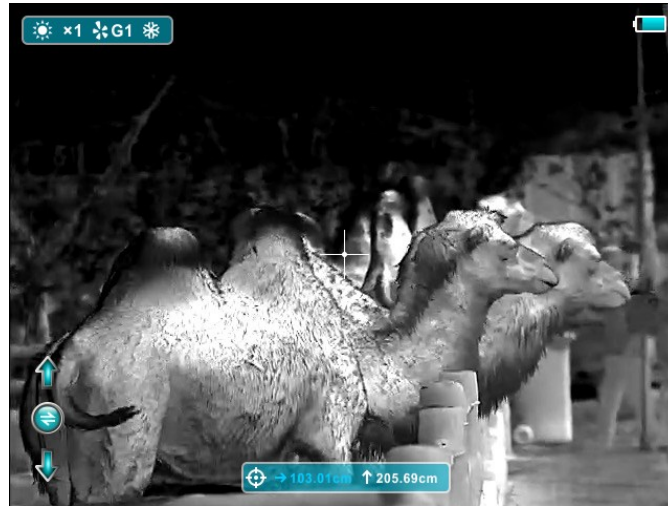

Fig. 4 Zeroing interface
- Select the Zeroing item, and press the **M** button to pop up the Zeroing interface as shown in figure 4. In the Zeroing interface, the reticle is shown as a small cross for position adjustment.